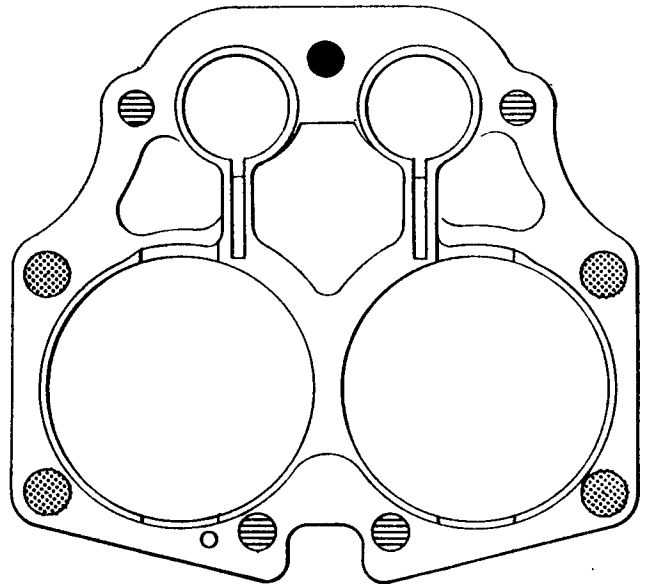

Fig. C43 Cylinder base securing torques.
- 14 Tighten the cylinder fixings in diagonal sequence working to torque settings as shown in Fig. C43.